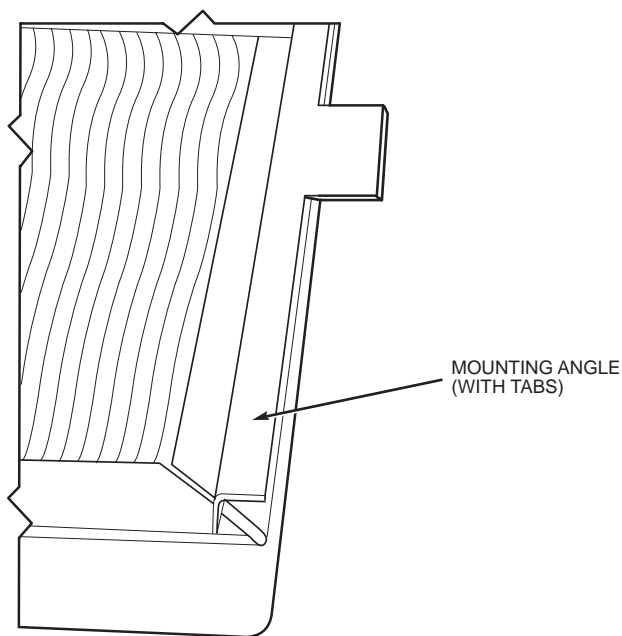

Fig. 31 — Mounting Angle (With Tabs) Attached to Filter Track Assembly
- Attach remaining mounting angle (with tabs) to other end of the filter track with no. 10 screws provided. See Fig. 31.